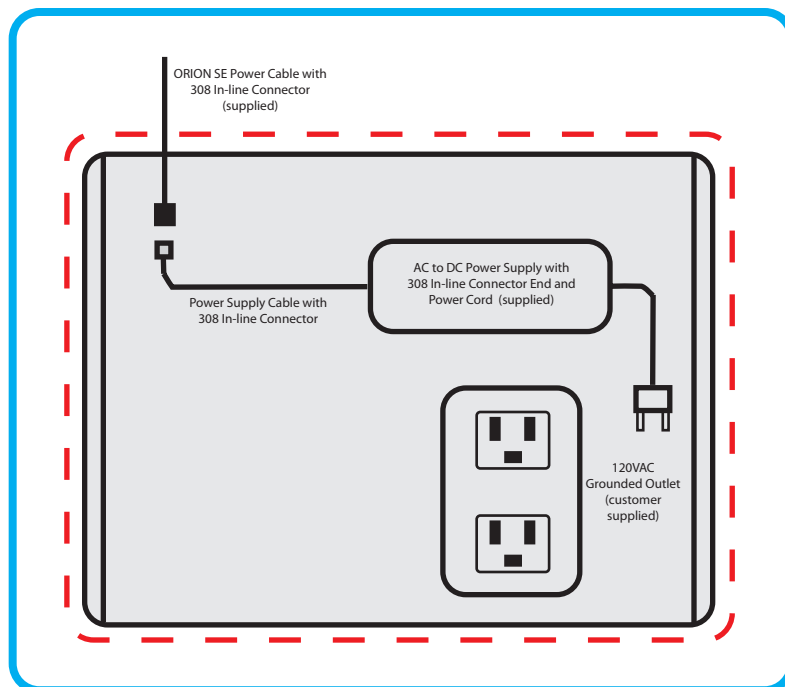

Figure 14: GPRS / Wi-Fi Connections (*Shown with NEMA 4 enclosure.)
- The ORION SE network gateway transceiver requires access to power and can use either a 120V AC grounded outlet for use with the AC-to-DC power supply and power cord (66528-002) or a DC power source to be used with the DC power source cable with 308 in-line connector (Figure 14).